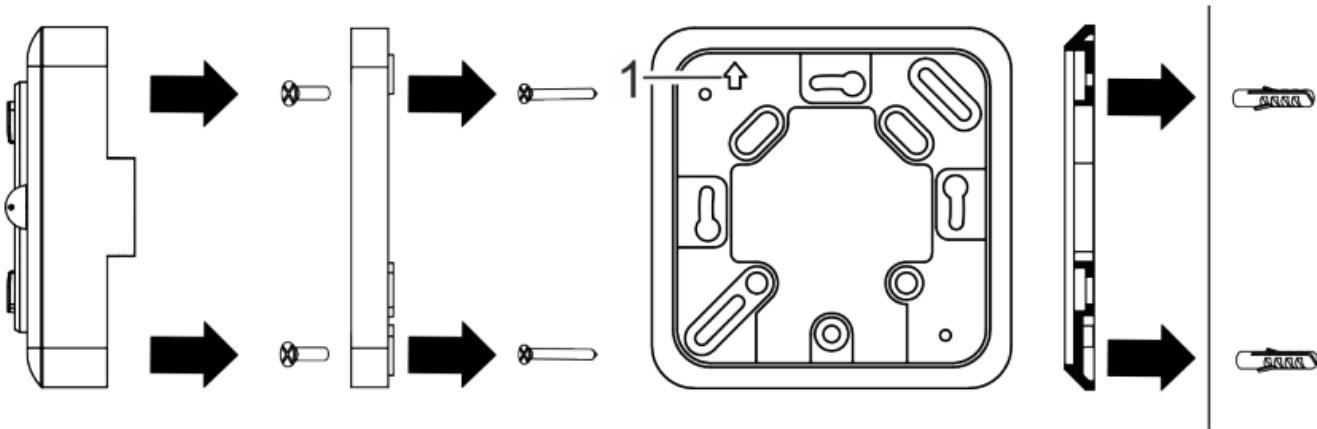

Fig. 5: Installing the housing base on the mounting plate
1. Attach the mounting plate to the flush-mounted socket with screws (3.5 x 25 mm) (Fig. 5).
The arrow (Fig. 5/1) on the mounting plate should point upwards.
7. Attach the housing base of the device to the mounting plate with the screws (3 x 6 mm) (Fig. 5).